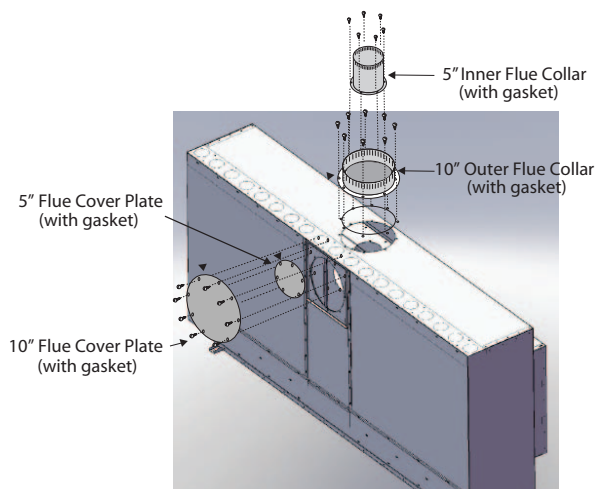

Figure 7. Flue cover and collar removal, Top Vented fireplace
1. Remove the Rear flue cover with gasket (5" and 10") on the flue outlet, as shown in **Figure 7**. **ENSURE YOU DO NOT DAMAGE THE FIBRE GASKETS.**
2. Remove the Top flue collar (5" and 10") on the flue outlet, as shown in **Figure 7**. **ENSURE YOU DO NOT DAMAGE THE FIBRE GASKETS.**